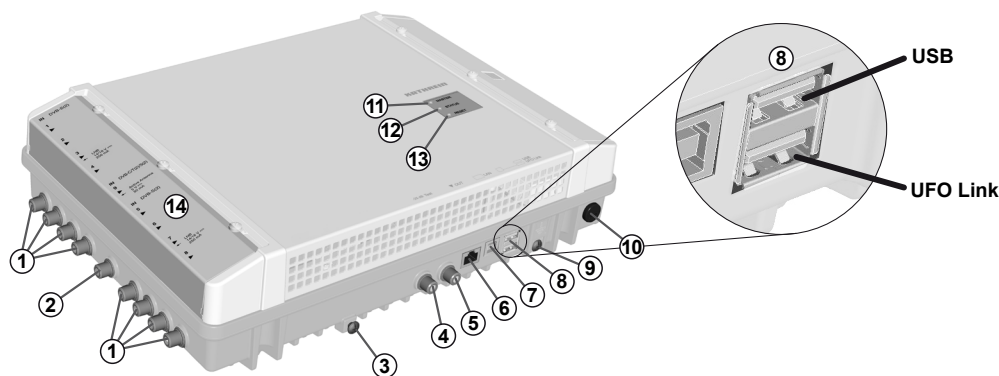

Fig. 1: Device elements
- Do not open the casing and do not modify the device. Otherwise the guarantee and warranty will become void. Exception: Cover of the CI slots (Ⓜ in Fig. 1, P. 3)
1. Connect a potential equalisation wire (Cu, $\geq 4 \text{ mm}^2$) to the earthing screw; see ④ in Fig. 1, P. 3.
- The plugs must be inserted into the master and slave at the appropriate UFO link interface ports (③ in Fig. 1).
4. Connect the RF signal cables for the antenna, cable network and output to the head-ends; see ①, ② and ⑤ in Fig. 1, P. 3.